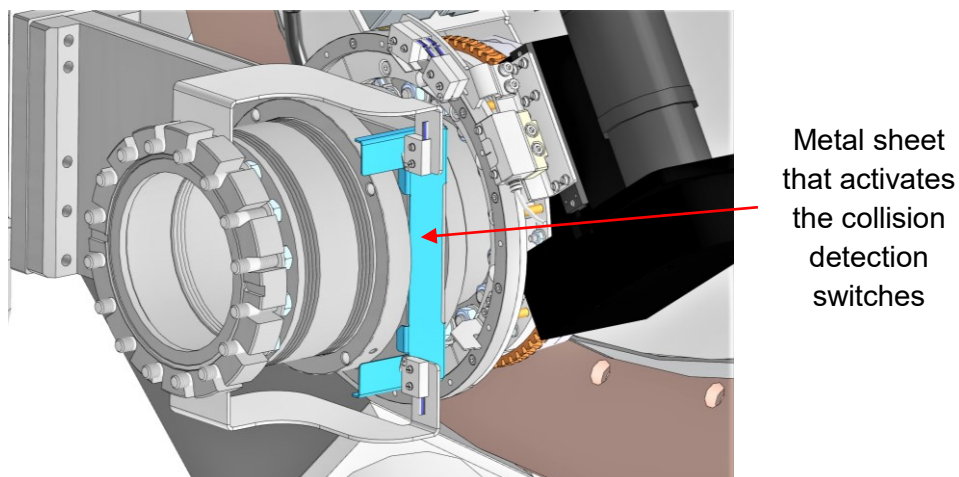

Figure 35: Metal sheet that activates the limit switches at the TRF3 motion axis
20. The metal sheet that activates the limit switches at the TRF3 motion axis (turquoise in Figure 35) has to be glued at the gate valve. Please use for this purpose a heat resistant two component epoxy glue.